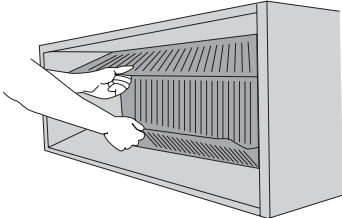

Figure 13. Pull rear closure panel out of wall sleeve
2. Grasping the top and bottom flanges of the rear closure panel as shown in Figure 13, the entire panel is pulled out diagonally from one side.